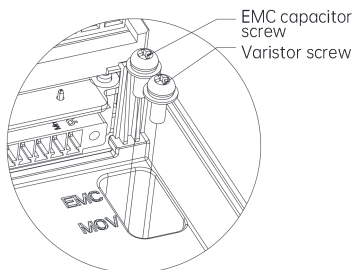

Figure 4-33 Screws for EMC capacitor and varistor
- Prevent the leakage protection by disconnecting the EMC capacitor connection screw, as shown in Figure 4-33.